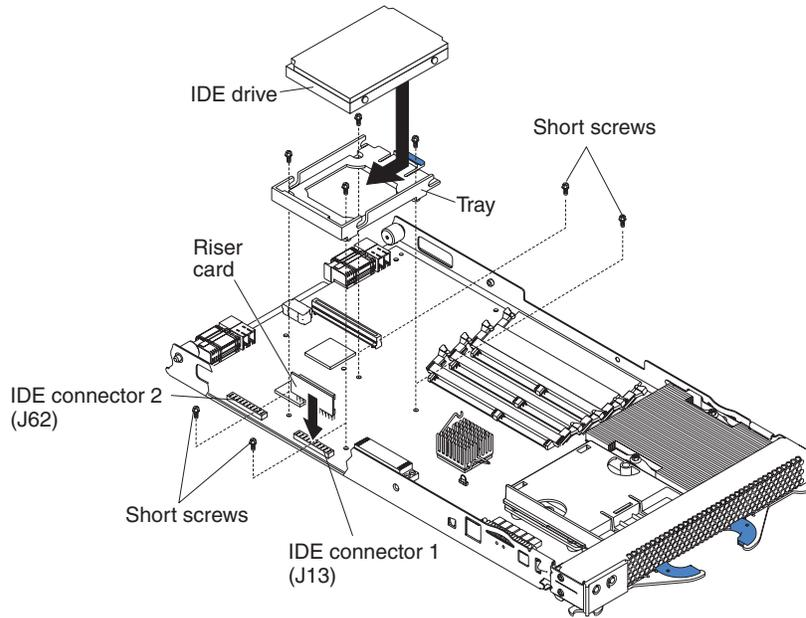

Figure 18. Installing an IDE drive
6. Place the IDE drive tray from the option kit over the riser card as shown in Figure 18, aligning the tray with the four screw holes on the system board.